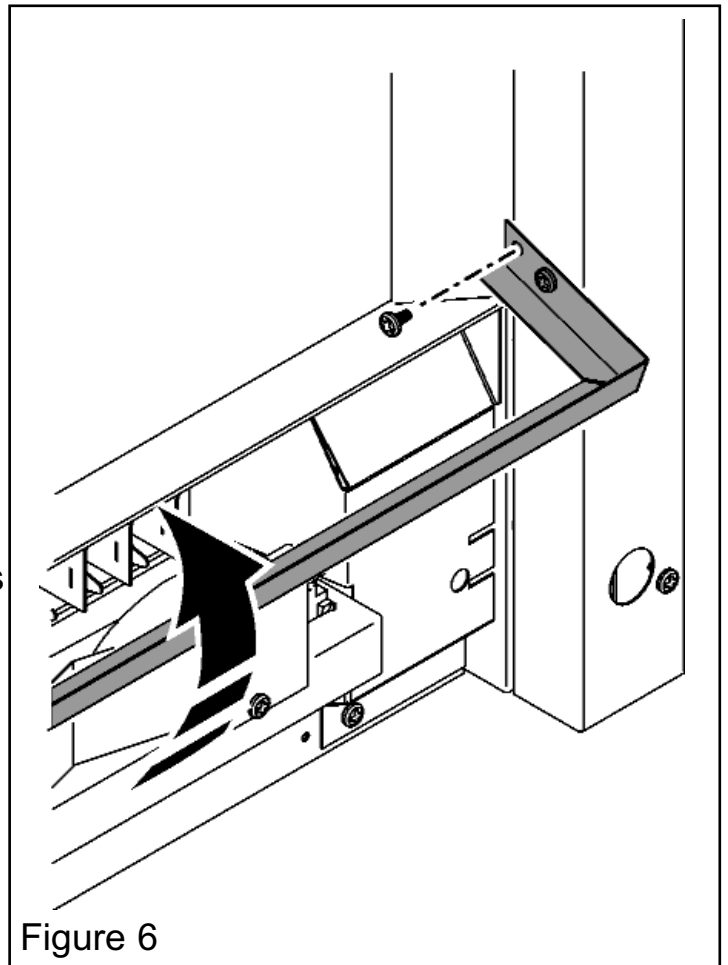

Figure 6
- 3.** The front spacer has a fuel support bracket secured with two screws. Rotate the bracket upward and align the two holes in the bracket with those in the spacer frame. Secure in place with two No.8 x 3/8 screws (See figure 6).